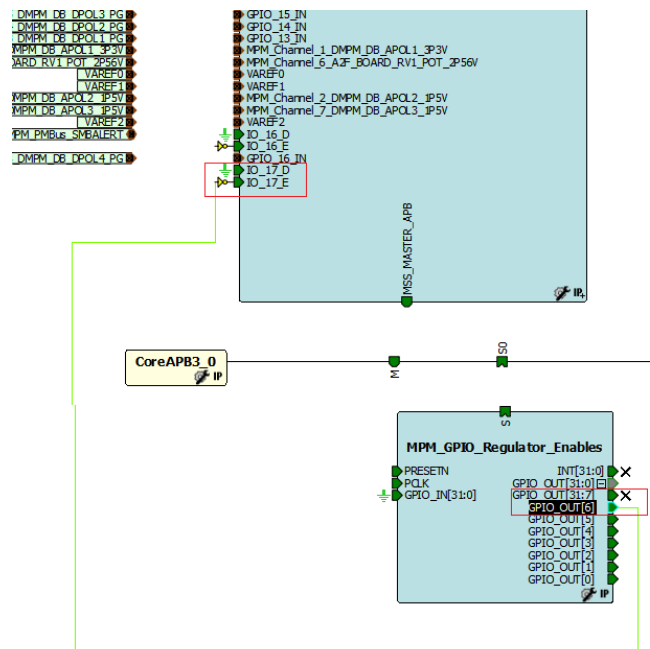

Figure 49 • CoreGPIO Block After Configuration
- Connect GPIO\_OUT[6] port of MPM\_GPIO\_Regulator\_Enables to IO\_17\_E port of SF\_MPM\_RefDesign\_MSS. Now the CoreGPIO (MPM\_GPIO\_Regulator\_Enables) block is similar to Figure 49.